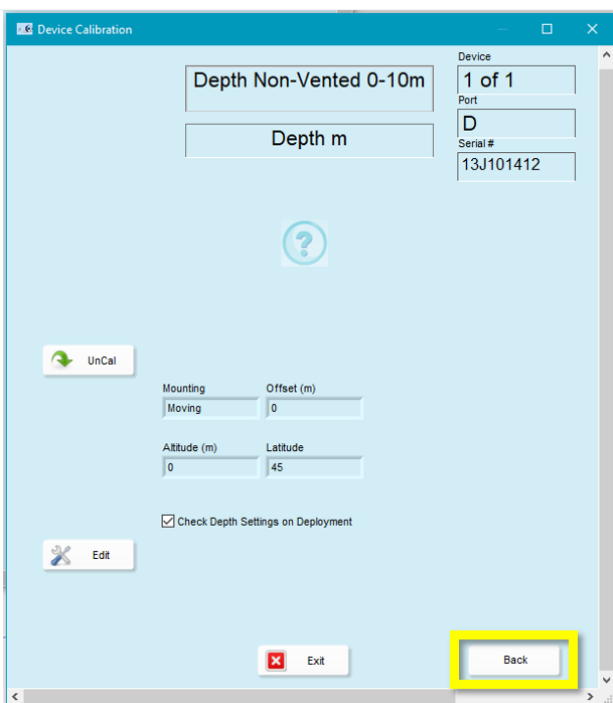

Figure 180. Click "Back" & Continue Cals as Normal
**STEP 5** | Click the "**Back**" button to return to the **Device Calibration** main page (Figure 180).